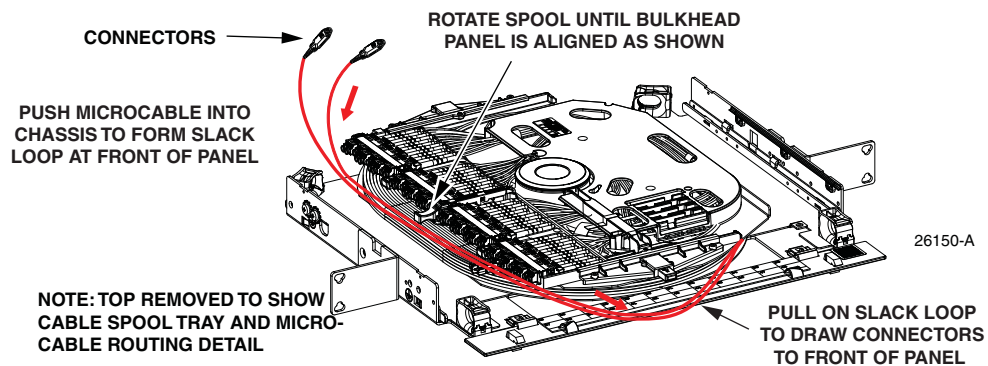

Figure 20. Pulling Microcable to Front of Panel for Front Routing
- a. Pull out enough cable to rotate the internal spool 90° as shown in Figure 20.